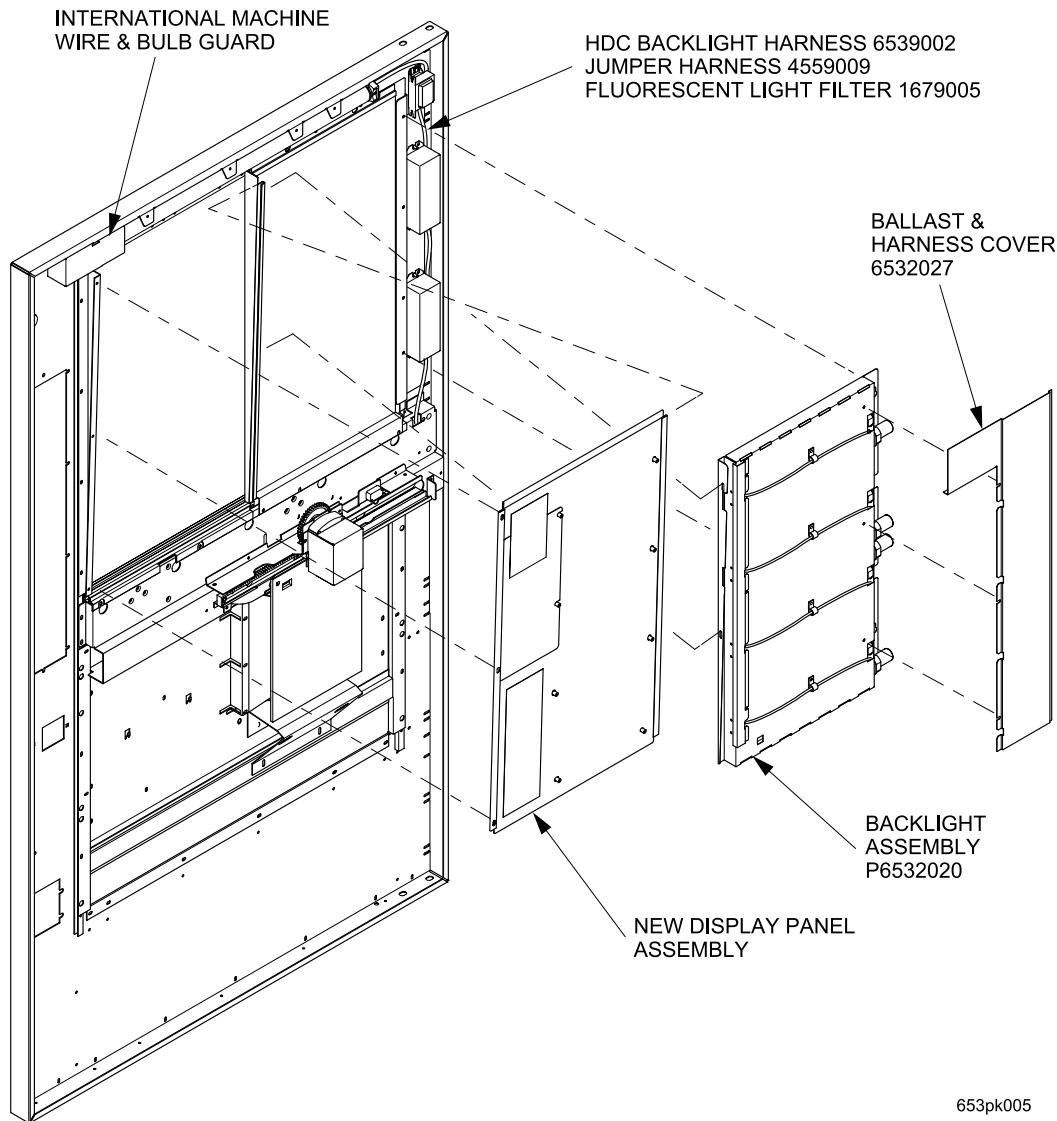

Figure 4
6. Install the new display panel assembly (sub-assembled in part III) using three existing thumb-screws. (see figure 4)